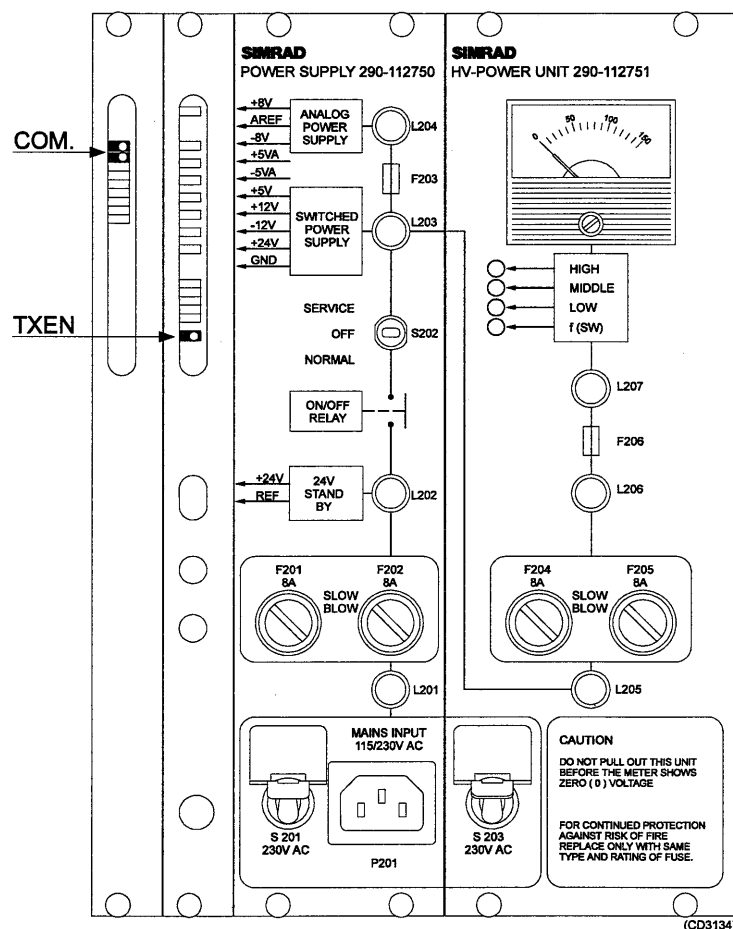

Figure 9 Location of the COM and TXEN LEDs
- * Check that the Transceiver Unit starts up, and that after some seconds the two LEDs at the top of SPB-31 start blinking (marked COM on figure 9).
- * Check that the TX enable LED (TXEN) on the TIB board starts blinking. For location of the TXEN LED, see figure 9.
☐ Check that the Transceiver Unit starts up, and that after some seconds the two LEDs at the top of SPB-31 start blinking (marked COM on figure 9).
- ☐ Check that the TX enable LED (TXEN) on the TIB board starts blinking. For location of the TXEN LED, see figure 9.